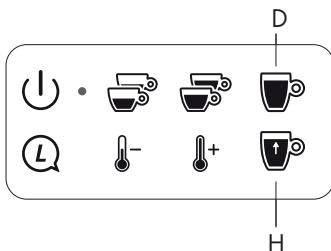

Fig. 12
For Code I0003287, button (D) dispenses 240 cc and button (H) dispenses 90 cc; so make sure that the container used is suitable for the quantity dispensed (Fig. 12).